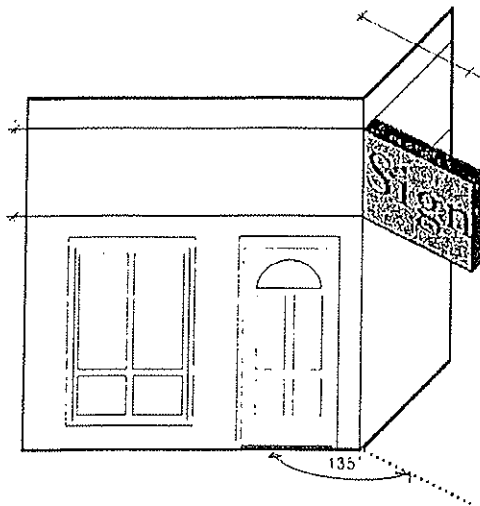

Figure-9
- b. Corner projecting signs are those that are visible from two or more intersecting streets, and shall be allowed as long as they do not exceed 40 square feet per face. The use of corner projecting signs shall preclude the use of any other signs. (See Figure-9)